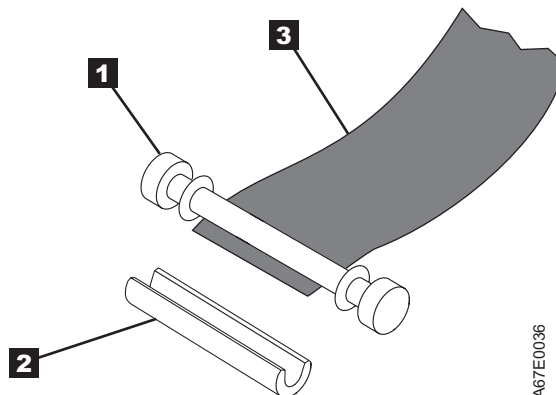

Figure 57. Removing the C-clip from the leader pin. Use your fingers to push the C-clip from the leader pin.
5. On the leader pin ( **1** in Figure 57), locate the open side of the C-clip **2** . The C-clip is a small black part that secures the tape **3** to the pin.